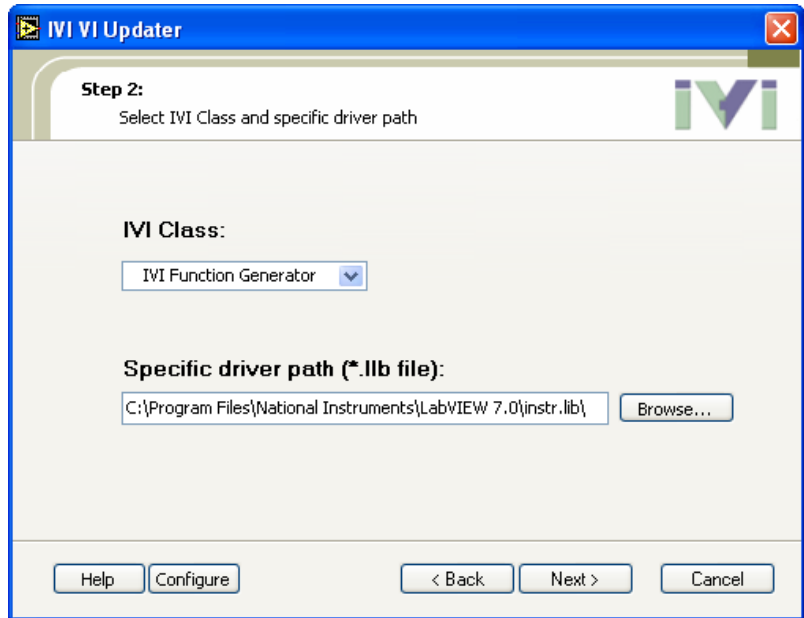

Figure 3. Select IVI Class and Specific Driver Path Window
- Use the IVI Class drop down menu to select the IVI class of your driver. In Figure 3, IVI Function Generator is selected.